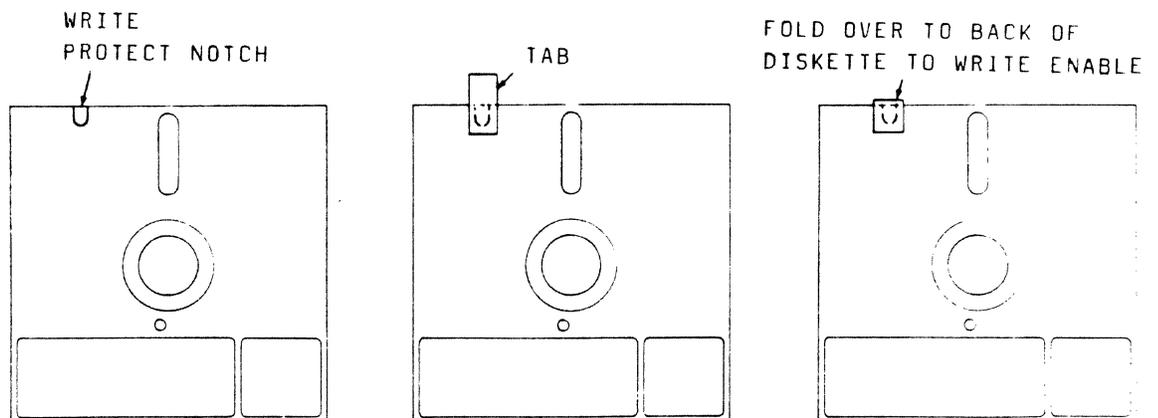

Figure B.3
1. Locate the write protect notch on the diskette. See Fig. B.3.